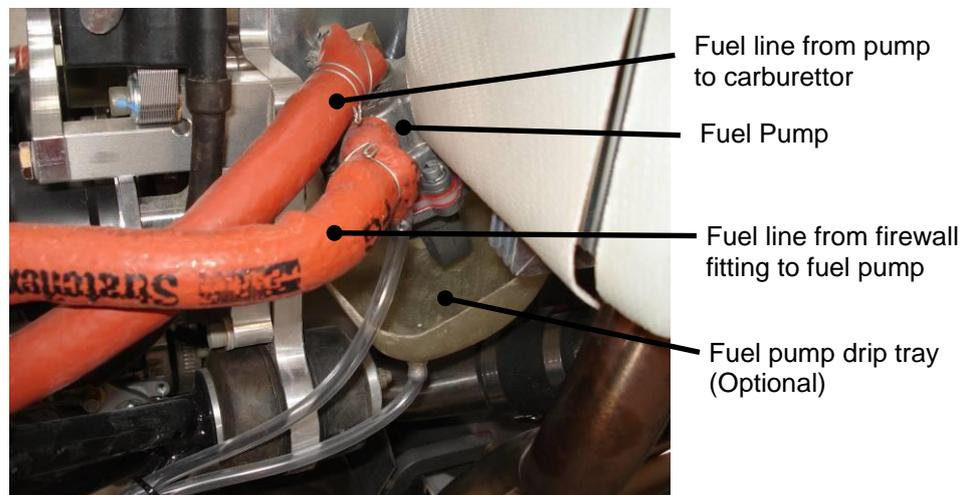

Figure 31. Mechanical Fuel Pump
- Some airworthiness categories also require an additional drip tray be fitted to the fuel pump. This optional tray is shown in Figure 31.
- All hoses forward of the firewall require fire resistant sheathing (visible as an orange covering on the fuel lines in Figure 31 above). Note that wherever possible the sheathing should be extended past the hose clamp. The ends of the sheath must be held in place using safety wire to prevent the sheathing moving and exposing the fuel line.